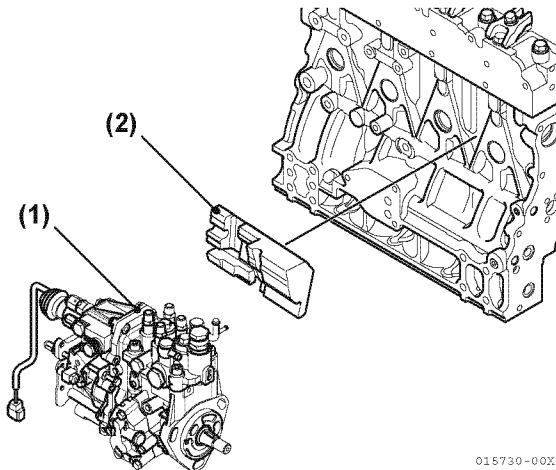
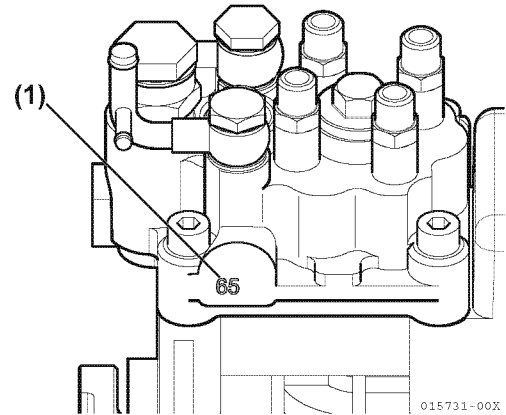

Figure 6-37
Figure 6-38
Note: The intake manifold and fuel injection pump insulator (**Figure 6-37, (2)**) may need to be removed to access the inner fuel injection pump (**Figure 6-37, (1)**) retaining nuts.
23. Remove the fuel injection pump (**Figure 6-37, (1)**). For purposes of future injection timing purposes, record the fuel injection pump timing index number located on the boss on the engine side (back) of the fuel injection pump (**Figure 6-38, (1)**). **NOTICE: Do not rotate the crankshaft while the injection pump is removed.**